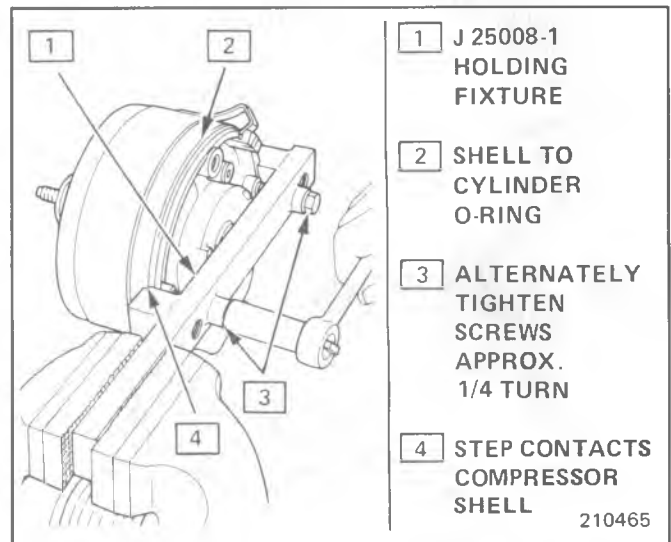

Fig. 1C1-41 Removing Shell
7. Alternately tighten each bolt approximately 1/4 turn to push the Shell free of the O-rings on the cylinder (Fig. 1C1-41). If one (1) screw appears to require more force to turn than the other, immediately turn the other screw to bring the screw threading sequence in-step or the Shell will be cocked and made more difficult to remove. Normal removal does not require much force on the wrench if the screws are kept in-step while turning. The Shell can be removed by hand as soon as the Shell is free of the shell to cylinder O-rings. Do not turn the screws any further than necessary to release the Shell.